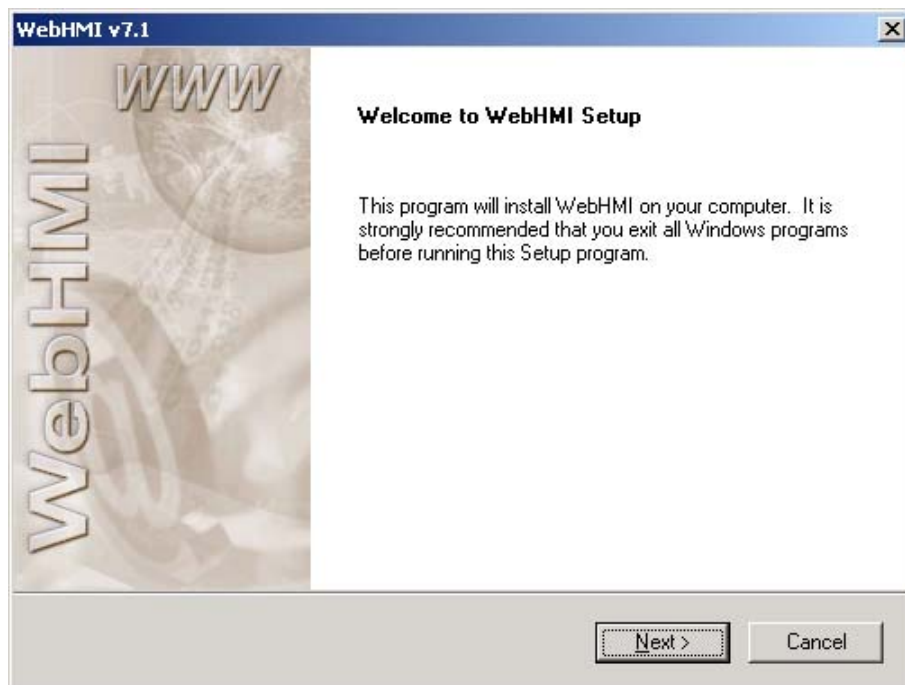

Figure 2.9. Welcome Screen
2. As you begin installing WebHMI on a properly configured PC, a **Welcome** dialog box will appear, as shown in **Figure 2.9**. Click **Next** to continue the installation.